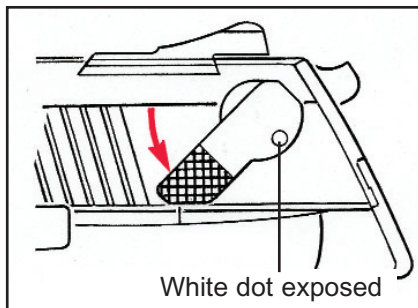

FIGURE 2
The pistol can and should be loaded and unloaded with the safety engaged in its “safe” position (lever fully down, white dot exposed). **The safety should be in its “safe” position at all times except when the user is deliberately positioned to fire at a selected target. When the safety is in the “fire” position (safety lever up) the red dot is exposed through the hole in the left safety lever.** See Figures 2 and 3, below, which illustrate the two positions of the safety.
2. **Move either the right- or left-hand safety lever fully downward to its “safe” position so that the white dot is fully exposed.** (See Figures 2 and 3 on page 11.)
4. Place eight (8) or fewer .45 Auto cartridges into the magazine from the top.
The trigger is inoperable when the safety is fully engaged in its “safe” position (lever fully down and white dot exposed; see Figure 2 on page 11). **WARNING:** **The pistol is ready for instant use in the single-action mode once the slide moves forward if the safety is in the “fire” position. Be careful!**
7. If the pistol is not to be fired immediately, the safety should remain in its “safe” position (see Figure 2, p. 11).
1. The muzzle of the pistol must be pointing in a safe direction at all times, and fingers should be outside of the trigger guard. Put the safety in its “safe” position (see Figure 2 on page 11) by rotating the safety fully downward until the white dot shows through the left safety lever. The safety can be engaged whether the pistol is cocked or not.